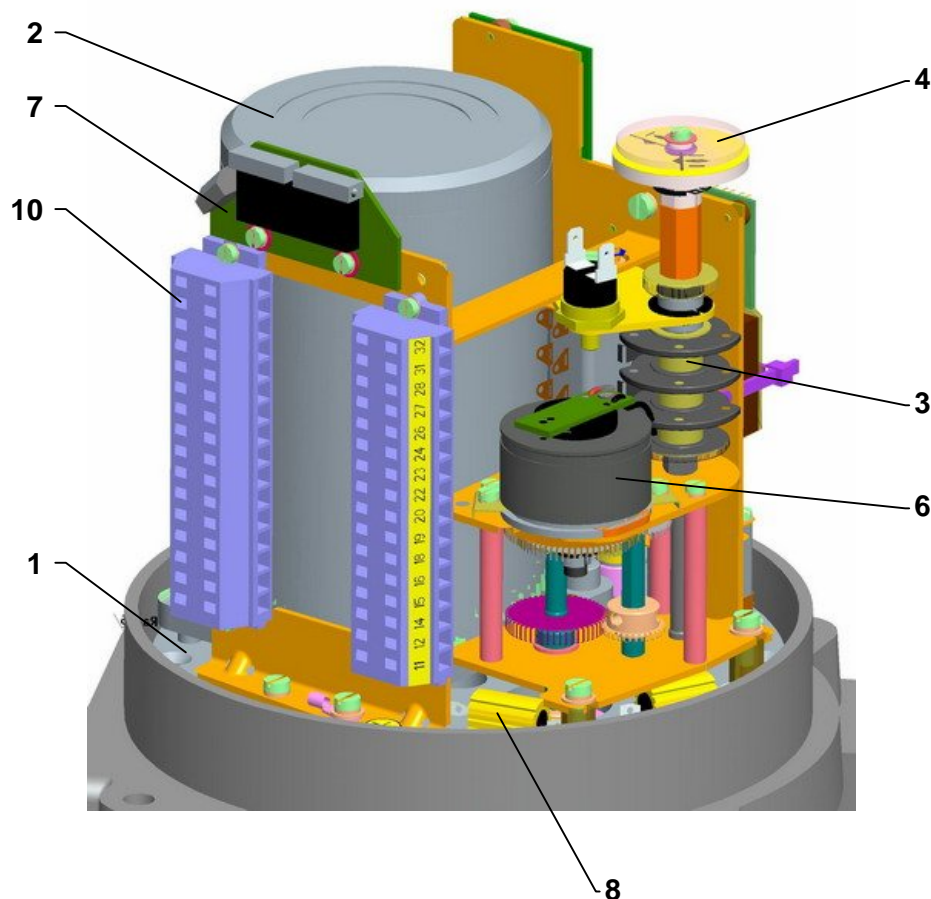

Fig.1
The **control part (Fig. 1, 1a, 1b)** is placed on a control board (1) consisting of:
- electric motor (2) (at single-phase version with capacitor)
- torque unit (5) (controlled with a worm axial shift)
- position-signaling unit (3) with a position transmitter (6) - positioner (resistive - potentiometer, capacitive or electronic position transmitter) (7) and with a mechanical local position indicator (4)
- space heater (8) with thermal switch
- electronic module (9)
- electrical connection through terminals (10), located in the control area and cable glands Ex d version